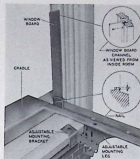

FIGURE 1
1. Secure the window board channels to the inside of the window frame, as shown in figure 1.